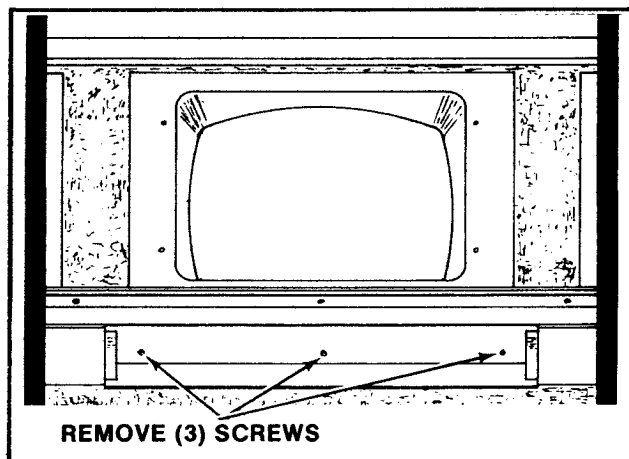

Figure 4-20 Removing Black Light Tube Mtg. Brkt. — Upright
- ☐ Remove the screws which secure the black light tube mounting bracket to the cabinet. See Figure 4-20.